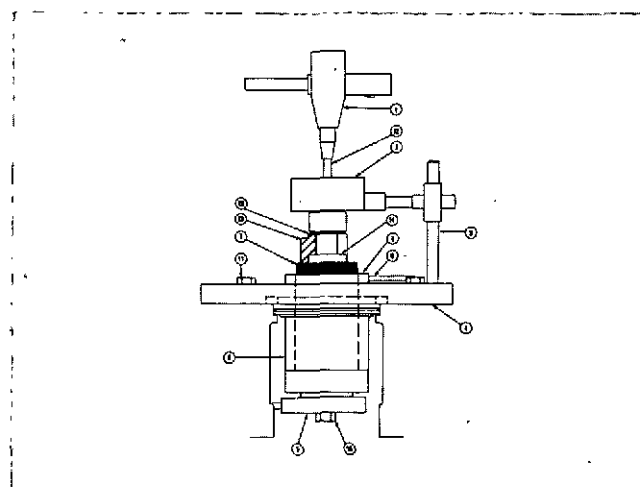

Fig. 1-1-33, V40160. Lower counterbore tool bit
2. Install ST-1084 Bore Adapter (8, Fig. 1-1-33) onto ST-1081 Boring Tool. (Wipe all finished surfaces clean.)
1. Install assembled boring tool into cylinder block, allowing bore adapter (8, Fig. 1-1-33) to engage counterbore and holes in adapter plate to match mating holes on cylinder block.
2. Fasten adapter plate in place with four capscrews and washers (11, Fig. 1-1-33).
4. Install torque reaction bar (3) into adapter plate.
5. Install gear drive (2) onto boring tool with 1/2 inch square drive engaging boring tool and gear driver anchor arm engaged over the torque reaction bar.
6. Install drive adapter (12) into drill motor (1) and fasten in place.